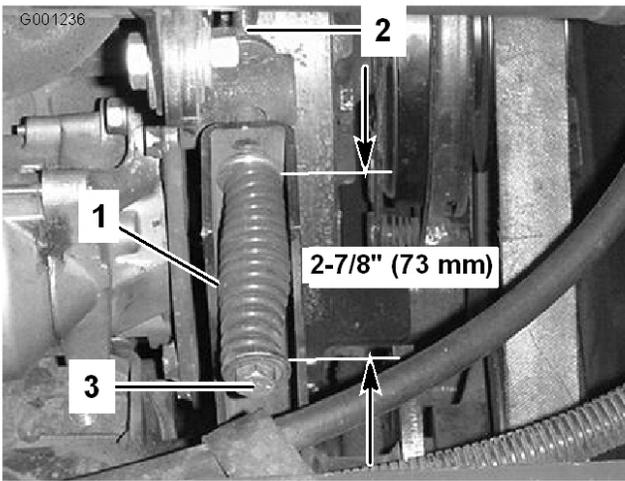

Figure 65
3. Loosen the tensioning rod jam nut (Figure 65).
- Use a 1/2 inch wrench to tighten or loosen the belt tensioning spring (Figure 65). Adjust spring to a length of 2-7/8 inches (73 mm).
- Loosen the tensioning rod jam nut (Figure 65).
- Using a 1/2 inch wrench, loosen the belt tensioning spring (Figure 65) all the way.
- Install the new PTO belt and tension the pulley spring to 2-7/8 inches (73 mm) (Figure 65).
- Tighten the jam nut (Figure 65) and close the hood.